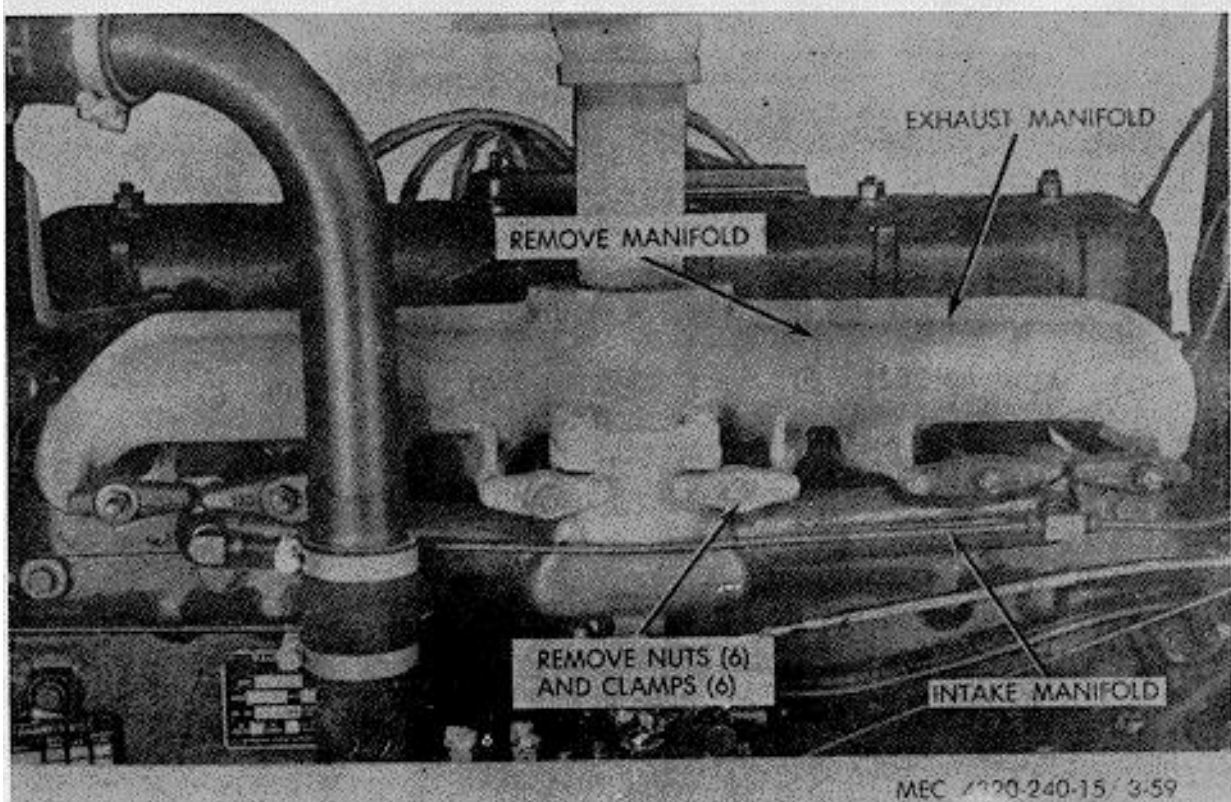

Figure 3-59. Manifold removal and installation.
(4) Refer to figure 3-59 and remove manifold.